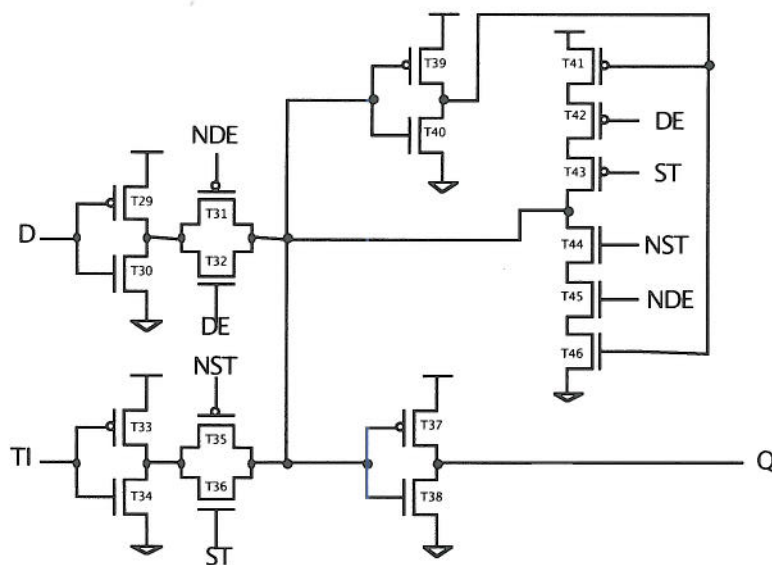

Figure 4.2
- d) Figure 4.2 shows the register circuit. Explain briefly how this circuit works.